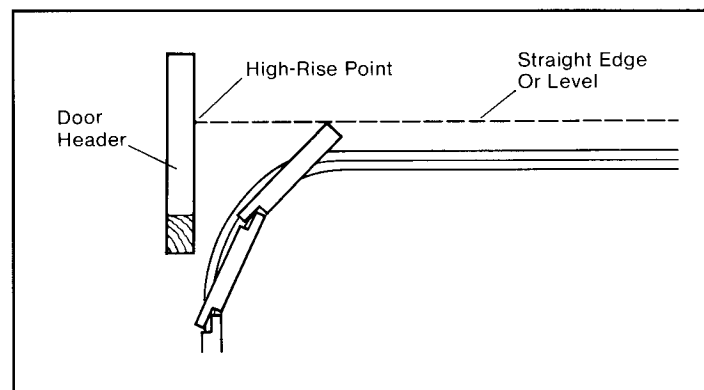

Figure 7
Step 13: Determine high-rise point of door (highest point door reaches when opening) (see Figure 7). Place straight edge or level at the top of the center of the door at its highest point of travel. Make sure straight edge is level and mark the door header where it touches. This is your high-rise point.